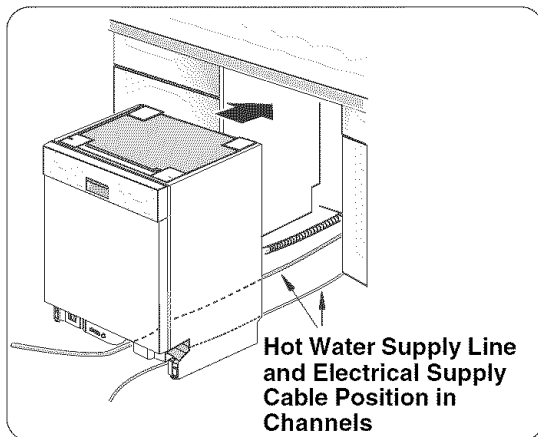

Figure 20
- 2 Position the dishwasher close enough to the enclosure so that you can run the dishwasher drain hose to the under sink drain connection. Make certain that the hot water supply line and the electrical supply cable are in their channels under the dishwasher base, as shown in **Figure 20**.